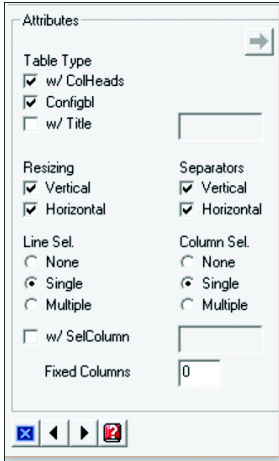

Figure 12.31 Table Control Attributes
4. You can maintain additional attributes, such as separators, rows, and column selection modes, as shown in Figure 12.31.
Table 12.1 describes the attributes shown in Figure 12.31.